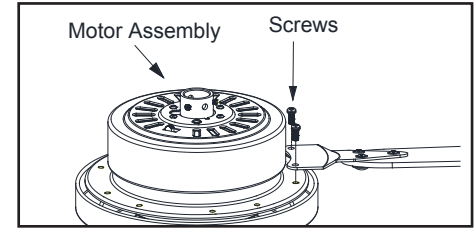

Figure 13
3. Attach the blade assemblies to the motor by aligning the two screw holes in the blade bracket with the screw holes in the center flywheel and secure with screws. (Figure 13)
4. Repeat this step for the remaining blade assemblies. (Figure 13)